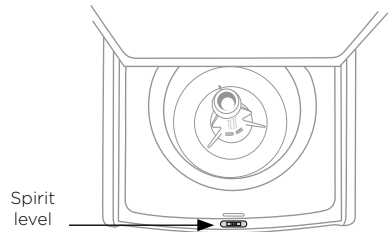

Fig.1 Levelling side to side
- ① Move the washer to its final position using the top corners to manoeuvre the product into place (do not push on the centre front of the washer). We recommend a minimum clearance of 20mm each side and 40mm at the rear of the washer.
- ② Open the lid, place the spirit level at the centre front of the top deck forward of the lid lock slot. Level the washer from side to side by winding up or down the front feet (Fig.1).